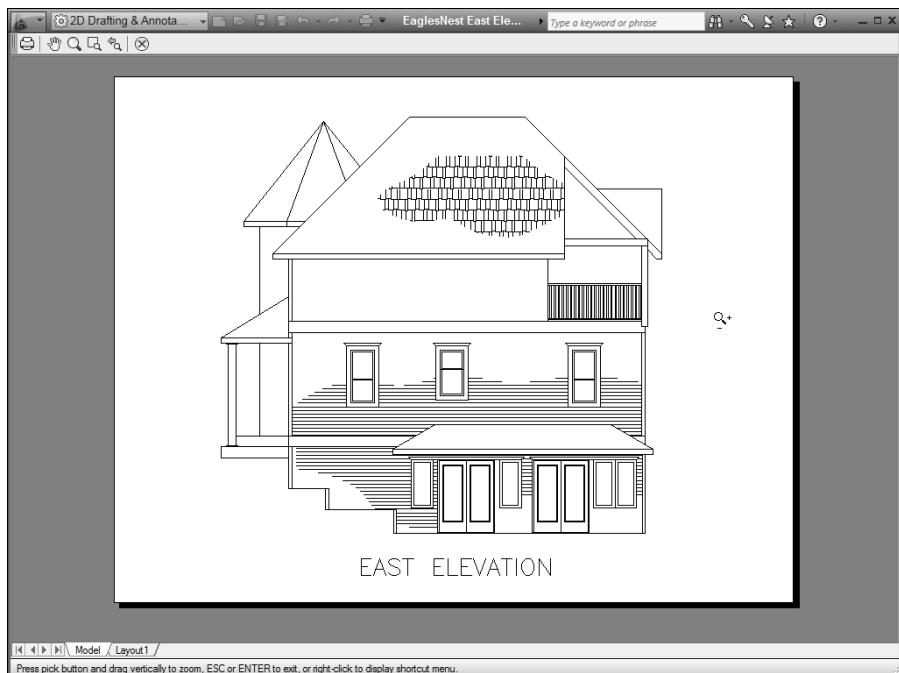

Figure 16-4:
14. Click the Preview button and check that the drawing displays on the paper at the correct orientation and size, as shown in Figure 16-4; then right-click and choose Exit to return to the Plot dialog box.